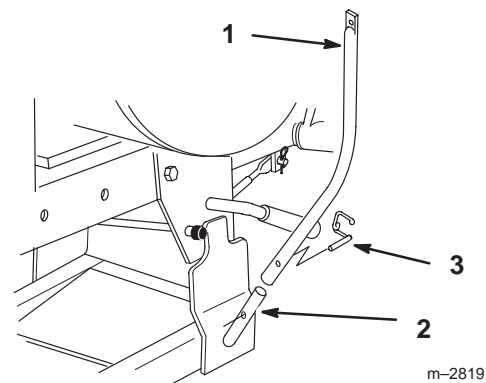

Figure 21
3. Unlatch and remove locking clevis pin and handle support from frame (Fig. 21).